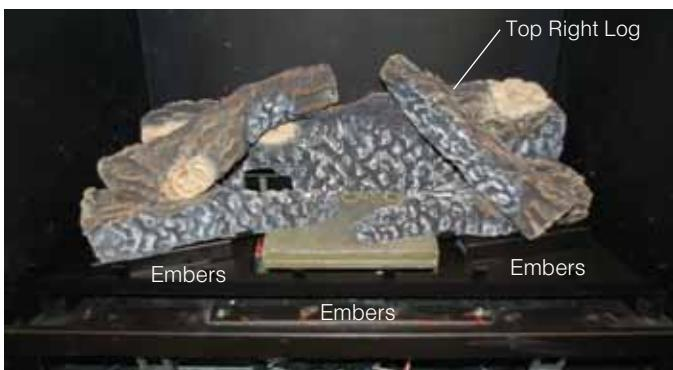

Figure 29e. Top right log placement.
5. Place the top right log as shown in **figure 29e**. A notch is provided on the front right log, and a impression in the Rear bottom log.